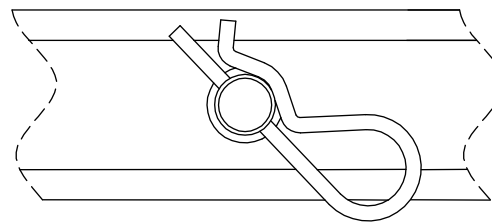

Fig. 2 Correctly placed safety pin.
1. In rear part of a car find factory prepared element of construction and slip in main bar of the towbar (pos. 1). Hole in main bar should agree with original prepared hole in car element.
2. Slip in bolt (pos. 3) and shift safety pin (pos. 4). Correctly placed safety pin is shown on figure 2.